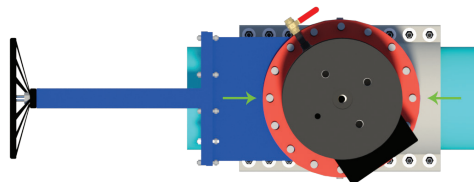

Figure 42 – Alignment nut placement for insertion housing alignment
4.1.2) Thread 2 alignment nuts onto the studs which connect the insertion housing to the temporary gate valve. Place these nuts at the locations shown in Figure 42.